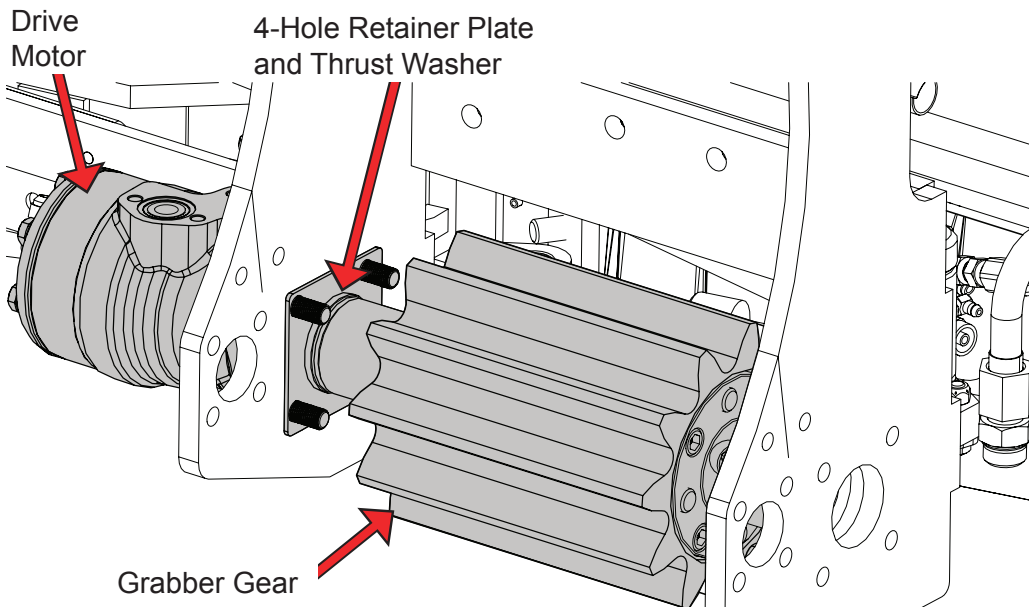

Figure 15
4. Install the grabber gear onto the drive motor spline (Figure 15).
5. Apply one (1) drop of Loctite 263 to each stud. Do not apply more than one drop.
6. Install a washer (PN 0621024) and a nut (PN 1141067) per stud (on the fine threaded end of the stud) on the **drive motor** (Figure 15).